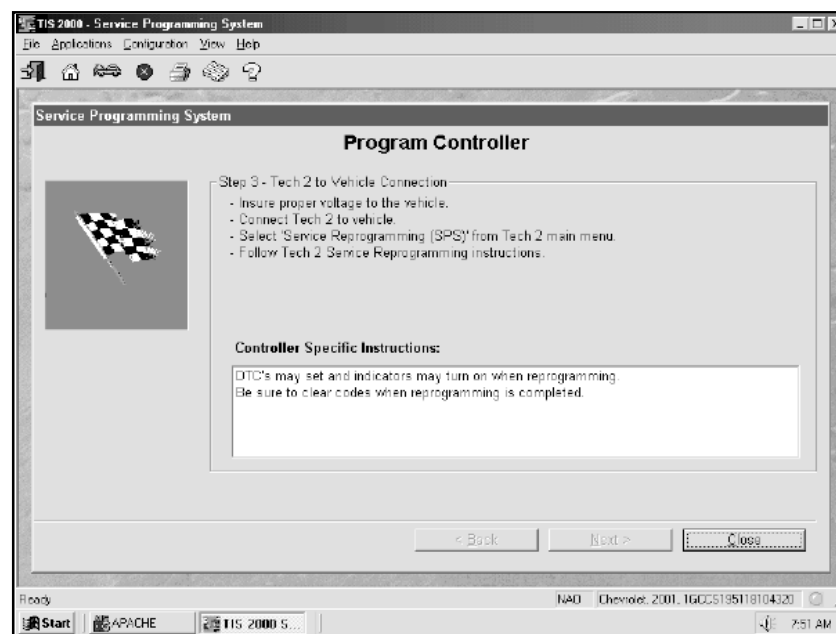

Figure I-15, Transfer Complete
- 2.14 After the download is complete, a screen will appear with instructions for connecting the Tech 2 to the vehicle to complete the programming process (Figure I-15). Close the application to return to the TIS 2000 Application Selection screen, then power down and disconnect the Tech 2 from the PC.